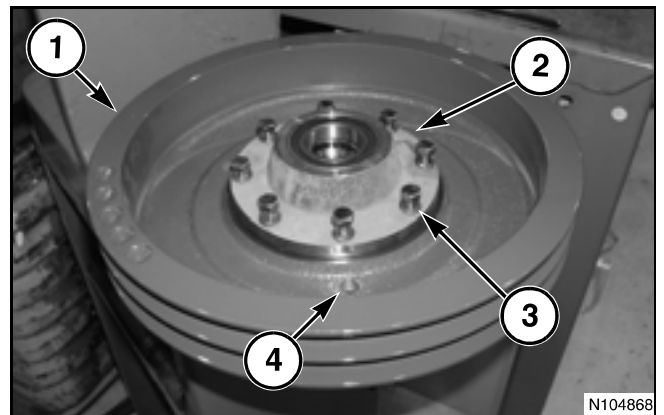

FIG. 273
FIG. 273: Locate the driven sheave (1) against the outside face of the flange on the hub (2). Install the eight capscrews with lock washers (3) to fasten the hub to the driven sheave. Tighten the capscrews securely.